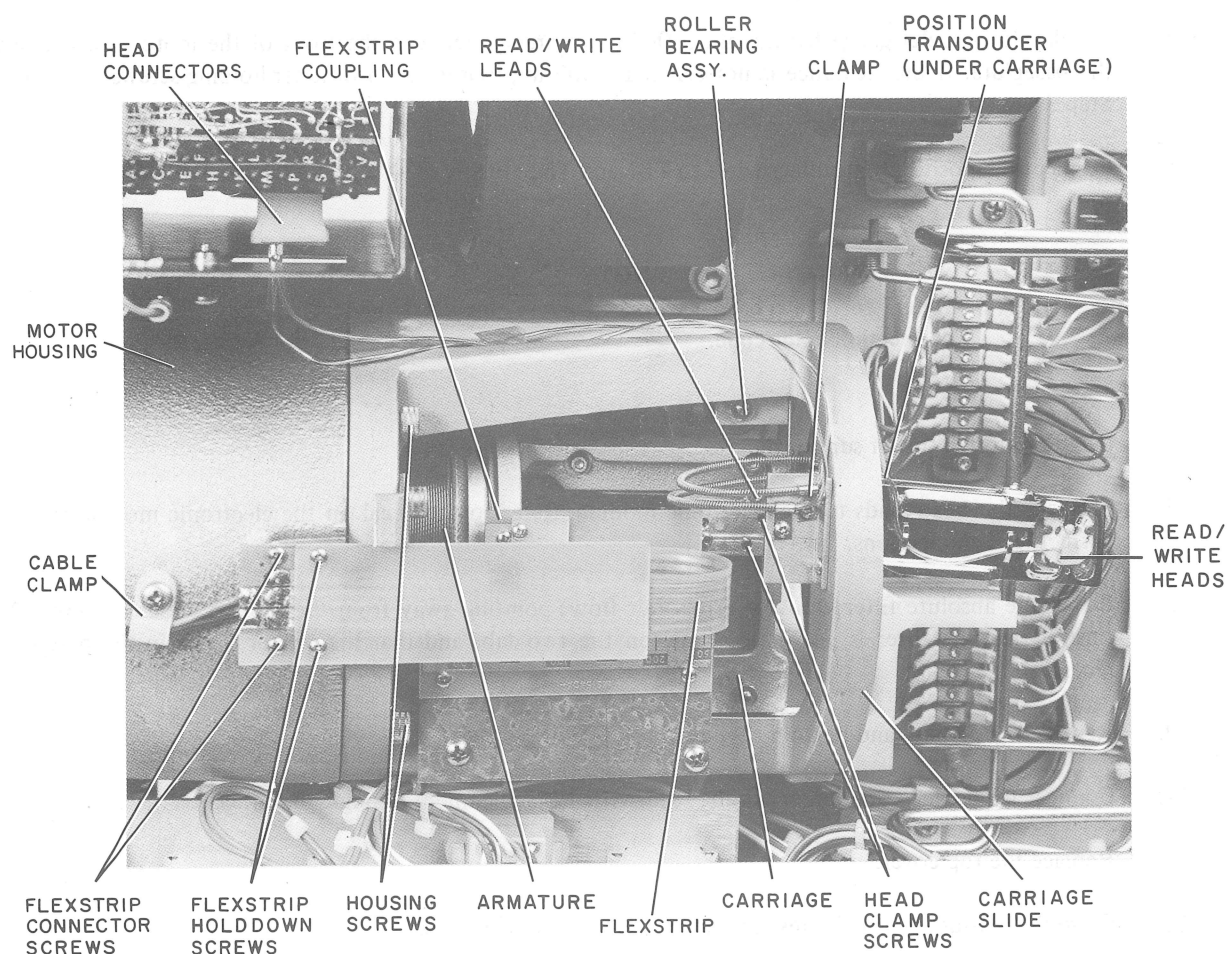

Figure 5-4 Carriage Removal
3. Remove the four flexstrip connector and flexstrip holddown screws (Figure 5-4). Do not disconnect the flexstrip coupling from the armature.
3. Replace the five screws that secure the carriage slide to the motor housing (Figure 5-4).